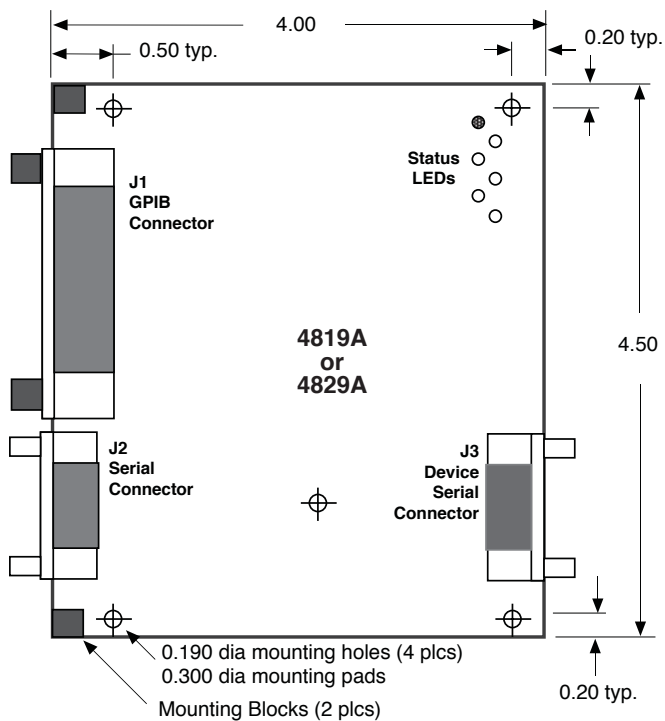

Figure 1-3 4819A/4829A Outline Dimensions
Size	4.00" L x 4.50" W x 0.7" H (10.16 cm L x 11.43 cm W x 1.78 cm H) (See Figure 1-3)
3. Select a convenient location to mount the 4809A. Do not mount it directly over a heat producing surface. Provide a 0.1 inch (2.5 mm) clearance underneath the 4809A or use an insulator if the 4809A is being mounted on a metal surface. Use the dimensions in Figure 1-3 to establish the mounting hole locations.